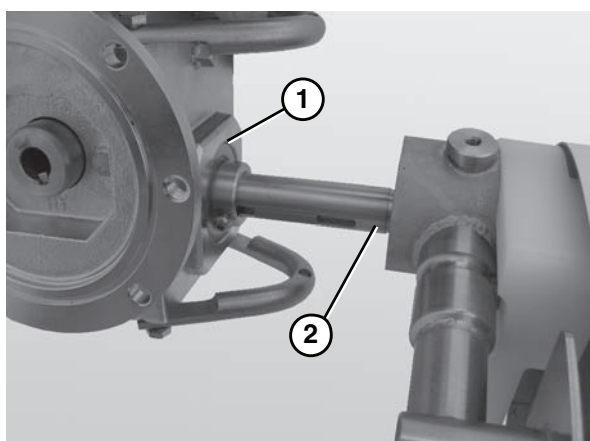

Figure 4
2. Slide the gear reducer (**Figure 4, item 1**) onto the drive spindle (**Figure 4, item 2**).